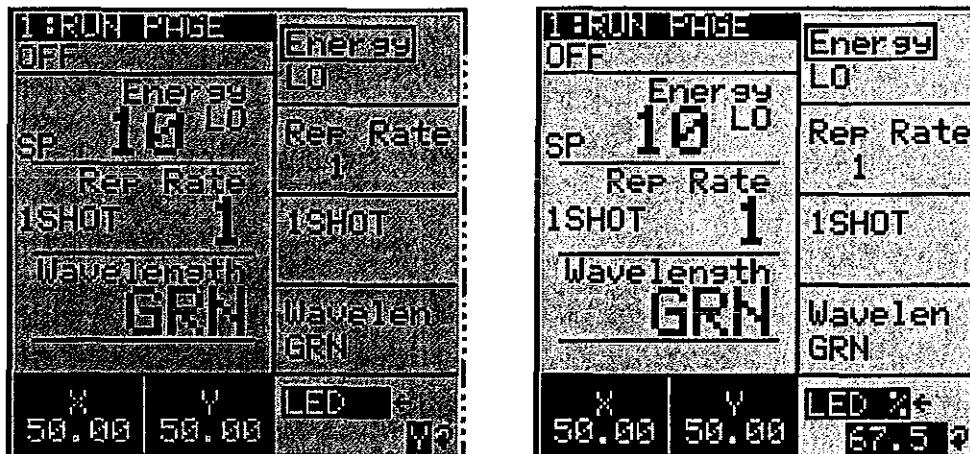

Figure 3-4: Run Page with LED Spot Marker ON and LED Spot Marker with percentage set.
- 8) Remove the pump chamber end caps that secure the flash lamp within the pump chamber, Figure 3-4.